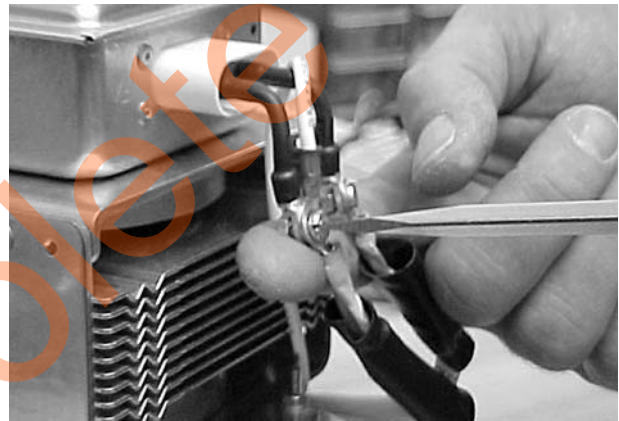

Figure 4-18 Disconnecting Magnetron Terminals
3. See Figure 4-18. Slide the sleeving down to expose the two ring terminals. Remove the two screws.